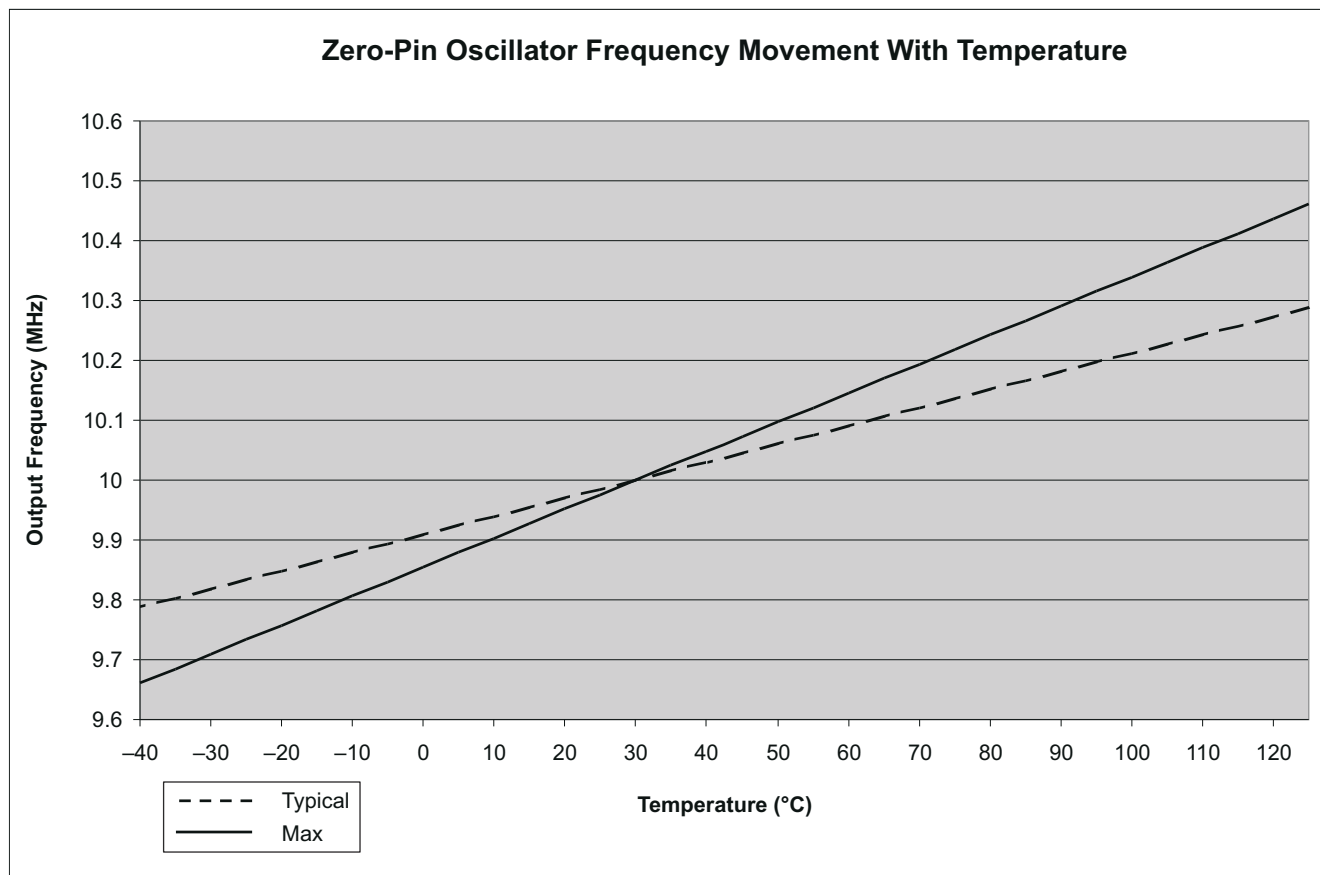

Figure 6-9. Zero-Pin Oscillator Frequency Movement With Temperature
- (1) Oscillator frequency will vary over temperature, see Figure 6-9. To compensate for oscillator temperature drift, see the Oscillator Compensation Guide and C2000Ware.
- (2) Frequency range ensured only when VREG is enabled, $\overline{\text{VREG}} = V_{\text{SS}}$.
- (3) Output frequency of the internal oscillators follows the direction of both the temperature gradient and voltage (V_{DD}) gradient. For example: